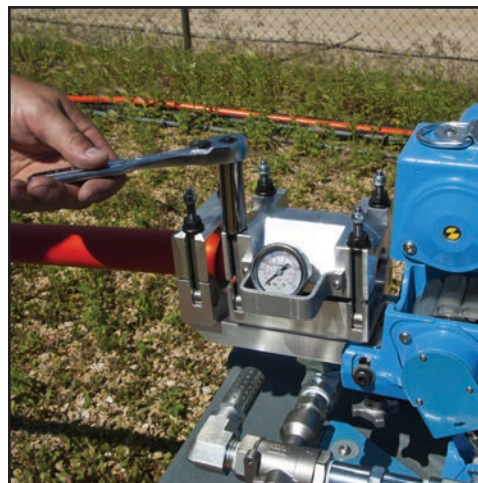

Figure 27. Tighten Air Block Cover
9. Close Air Block Cover and secure (Figure 27). Tighten nuts securely, but do not over tighten. Use a cross-tightening procedure.